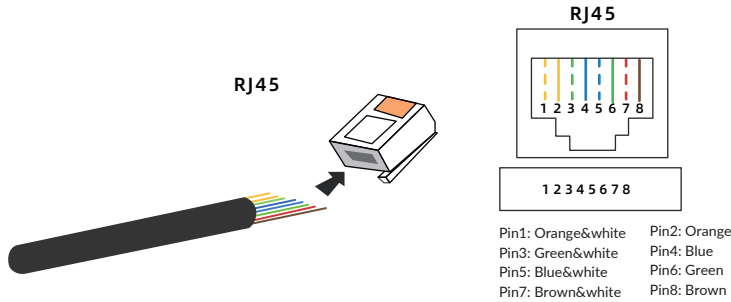

Figure 4-12 RJ45 Connector
a. Connect the LAN communication cable between the Ethernet COM port of EMS board and the router. The definition of RJ45 connector pin is shown in Figure 4-12.
b. Connect the Meter communication cable between the Meter COM port of EMS board and the power meter. Line sequence 3A6B for meter communication RJ45. The definition of RJ45 connector pin is shown in Figure 4-12.